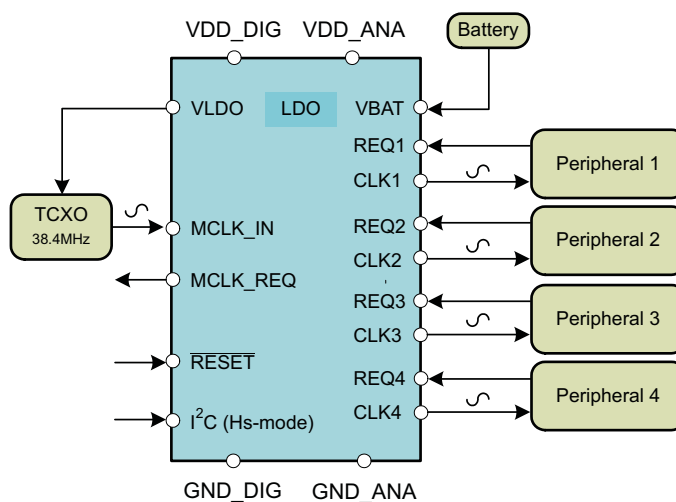

**Figure 26. Clock Output Enable Signal
(4) Inactive as long as the REQxPRIO bit is low, external REQx pins are valid (see Figure 26)
(5) Writing data beyond 03h may affect device function.